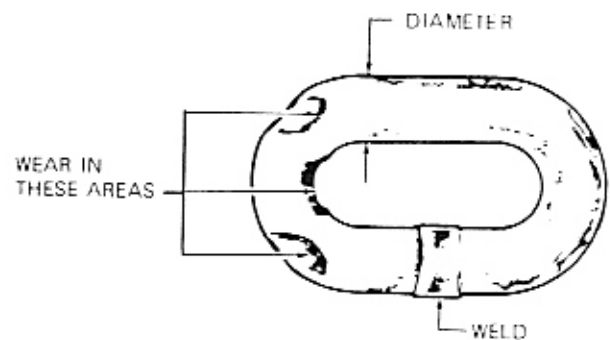

FIGURE 4-3. TYPICAL WEAR ON LINKS
b. Inspect each individual chain link diameter for wear of the link. See figure 4-3. The nominal diameter of the link is 0.250 inch for the C-19-8 chain and 0.312 inch for the C-19-10 chain. If the diameter for any link of C-19-8 chain is less than 0.200 inch, replace the entire chain. If the diameter of any link of C-19-10 chain is less than 0.275 inch, replace the entire chain.